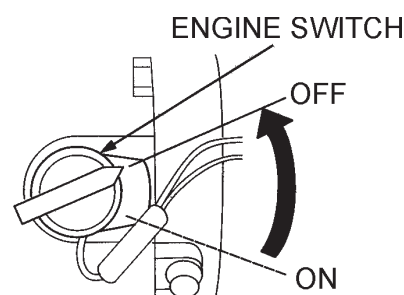

Figure 14. Engine ON/OFF Switch (OFF)
- Place the engine **ON/OFF** switch (Figure 14) in the **OFF** position.